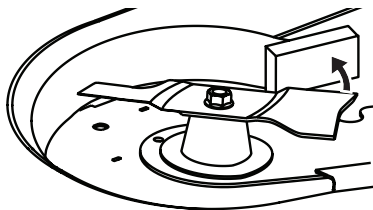

Fig. 63
- Secure the blade from turning counterclockwise during service by placing a block of wood between the blade and the deck housing (Fig. 63), or wrap a rag around one end of the blade and wear heavy gloves to grasp the blade firmly.